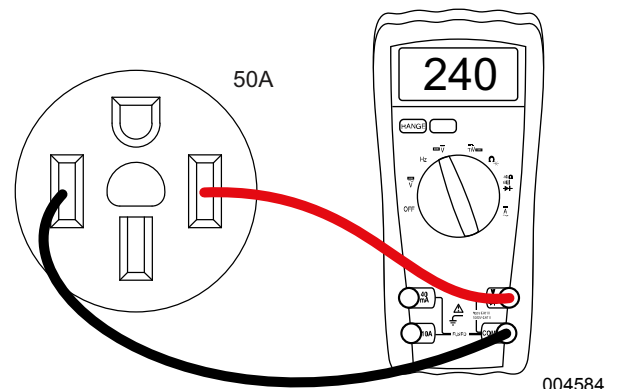

Figure 4-1. DMM Test Leads Connected to 50A Outlet
6. See Figure 4-1. Place the meter test leads into the 50A outlet.